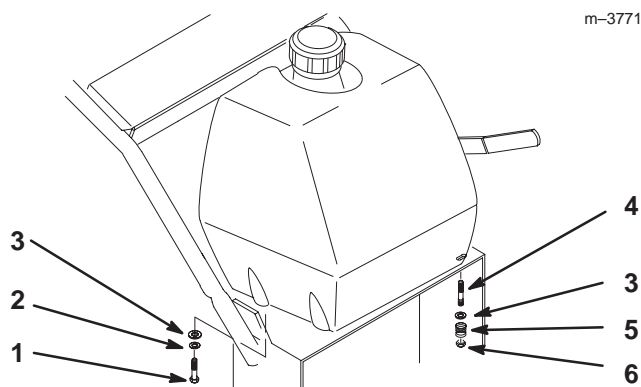

Figure 11
1. Align fuel tank with the top of the rear frame (Fig. 11).
2. Secure the right side of the fuel tank to the rear frame with 2 bolts (5/16 x 7/8 inch), lock washers (5/16 inch) and washers (5/16 inch) (Fig. 11).
3. Secure the left side of the fuel tank to the rear frame with 2 studs, washers (5/16 inch), springs and locknuts (5/16 inch) (Fig. 11).